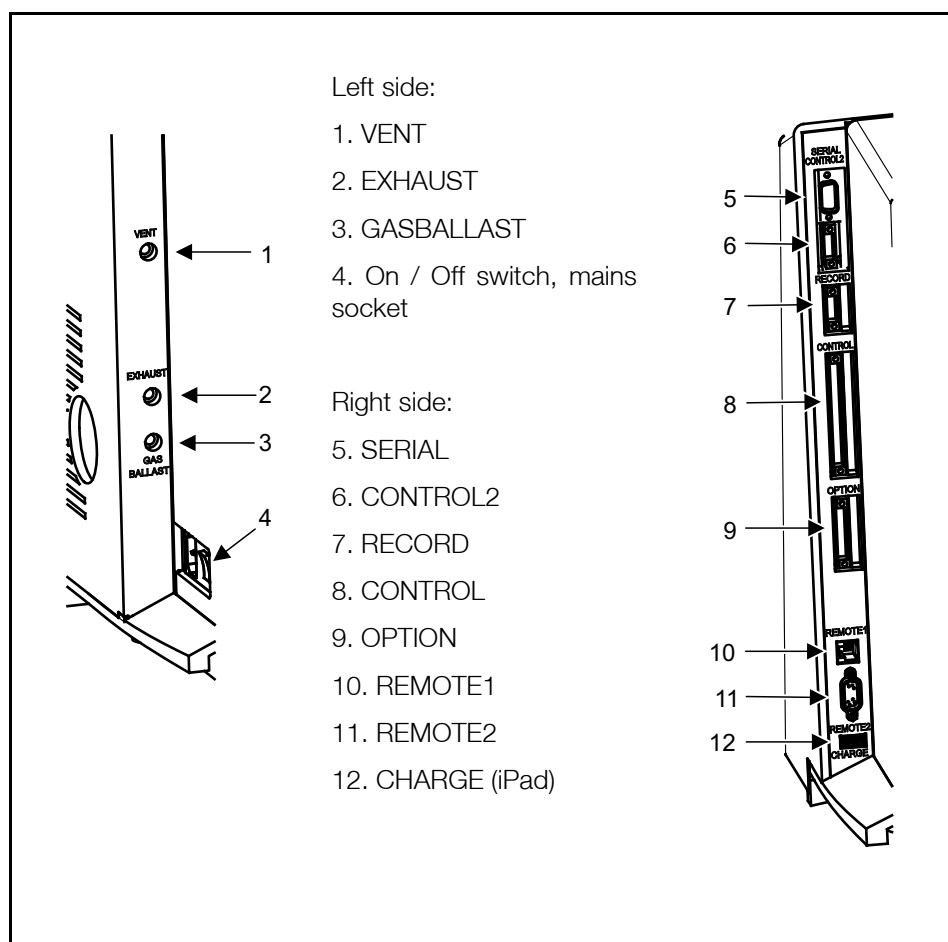

Fig. 9 Side views of the PHOENIX L300i
The mains voltage rating for the PHOENIX L300i can be read off from the name plate beneath the mains socket Fig. 9/4 at the side. This voltage is fixed and can not be changed.
The mains voltage is applied to the instrument via the detachable mains cable which is supplied with the instrument. A mains socket Fig. 9/4 is available for this purpose at the side of the instrument.
The sniffer line SL300 or the partial flow system may be connected to the option port (Fig. 9/9):
The following relay outputs Fig. 9/8 are available for further signal processing. The maximum rating for the relay contacts is 60V AC/1A.
These inputs Fig. 9/6 are working only, if the correct location of control is chosen. See chapter 3.5.
The recorder output Fig. 9/7 may be used to chart the leak rate, the inlet pressure and the fore vacuum pressure. Both recorder activities can be adjusted individually for showing leak rates and pressures.
This RS232 interface Fig. 9/5 is wired as data communication equipment (DCE) and permits the connection of a personal computer (PC) for monitoring and data logging. The connection is made through a 9 pin sub-D socket. For more information refer to chapter 3.5 and the Interface Description.
The remote control interface Fig. 9/10 is a serial interface to control the PHOENIX L300i by the remote control. The remote control can be connected via an extension cable with a RJ45 plug. Refer to the Interface Description for more information. The remote control does not belong to the standard equipment. If the remote control is connected via a cable, wireless communication over REMOTE2 is excluded.
The exhaust Fig. 9/2 flange is located on the side of the PHOENIX L300i.